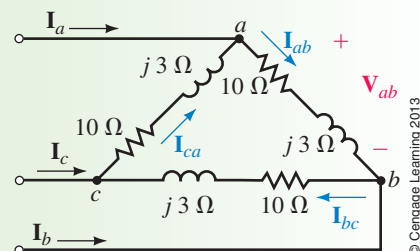

FIGURE 24-14
- For Figure 24-14, if $I_b = 17.32 \text{ A} \angle -85^\circ$, determine all voltages.